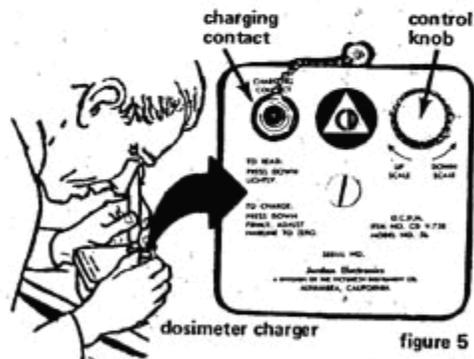

figure 5
3. Position the charger on a flat surface such as a table. Unscrew the cap on the charging contact and place end of the dosimeter opposite pocket clip and eye piece on charging contact of charger. (See fig. 5)
4. Apply downward pressure and you should see a meter scale and a line while looking through the dosimeter. If no line is visible, rotate the control knob, located in the upper right hand corner (figure 5), until a line appears.
5. Set line to or near zero (figure 6) by turning control knob (figure 5).